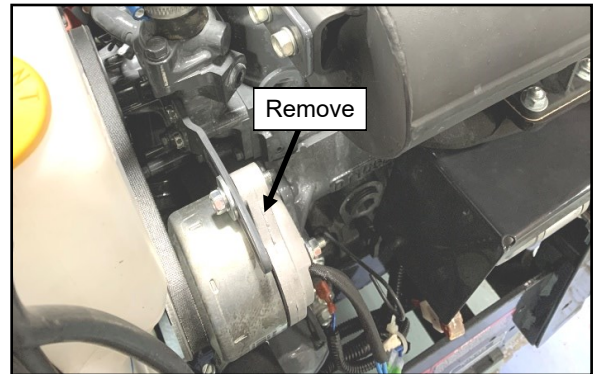

Fig. 2.1 (Remove OEM Dynamo)
- 2.1 See figure 2.1. Remove the OEM dynamo from the vehicle and discard. Save the hardware for reuse.